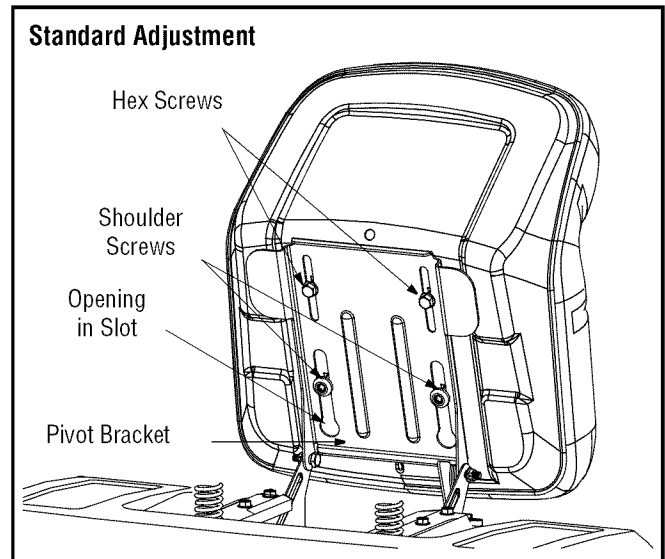
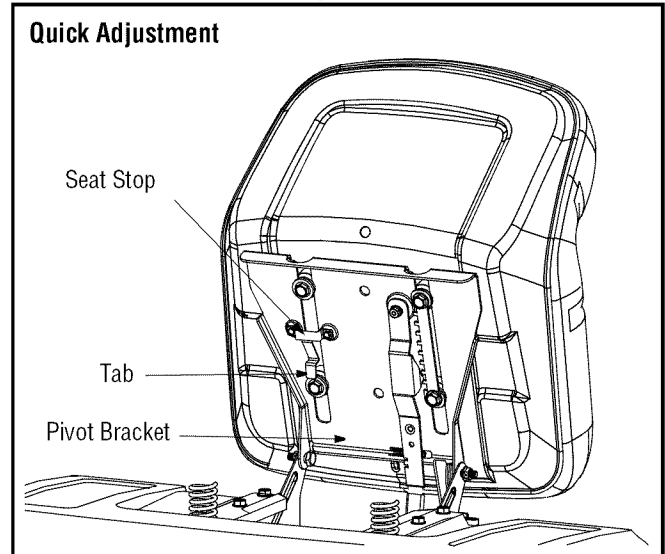
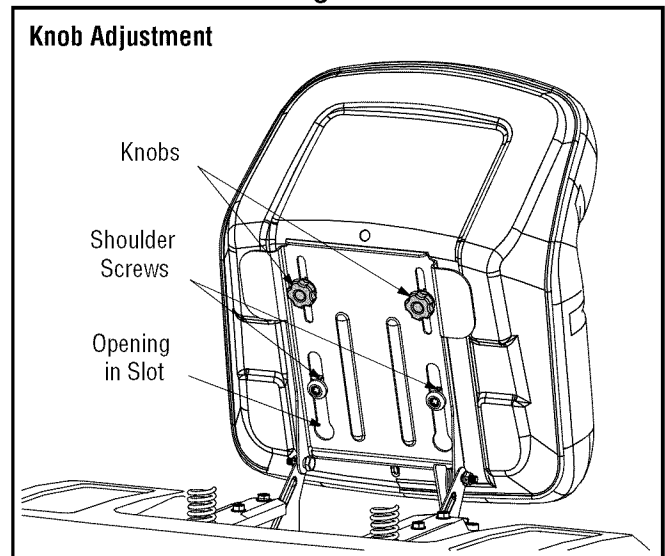

Figure 4
Figure 5
Figure 6
Refer to Figure 4, Figure 5 and Figure 6 to identify your tractor's seat style and follow applicable instructions below.
1. Position the shoulder screws (found on the base of the seat) inside the slot openings in the seat pivot bracket. Figure 4.
3. Select desired position for the seat, and secure with the two hex screws removed earlier. See Figure 4.
NOTE: If your seat was shipped mounted backwards on the seat pivot bracket, pull out the tab found on the seat stop and hold it open while sliding the seat off the seat pivot bracket. See Figure 5.
2. Slide seat in until front seat spacer engages the seat stop. See Figure 5.
1. Position the shoulder screws (found on the base of the seat) inside the slot openings in the seat pivot bracket. Figure 6.
3. Select desired position for the seat, and secure with the two knobs removed earlier. See Figure 6.